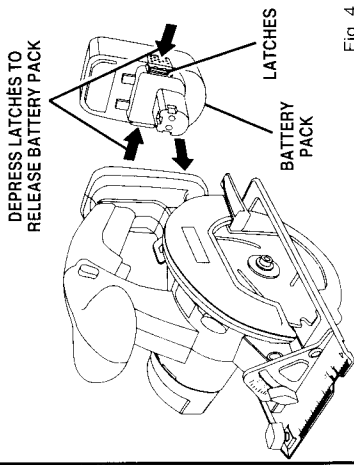

Fig. 4
- Locate latches on end of battery pack and depress to release battery pack from your saw. See Figure 4.
See Figure 4.